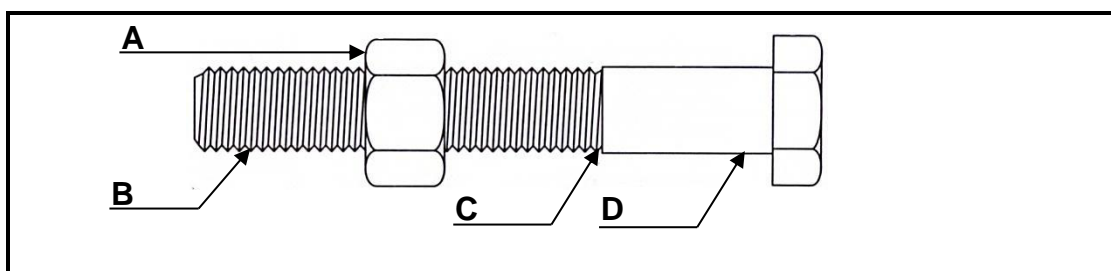

FIGURE 2.3
- 2.3 Name parts **A** to **D** of the bolt in FIGURE 2.3. (4 x 1) (4)